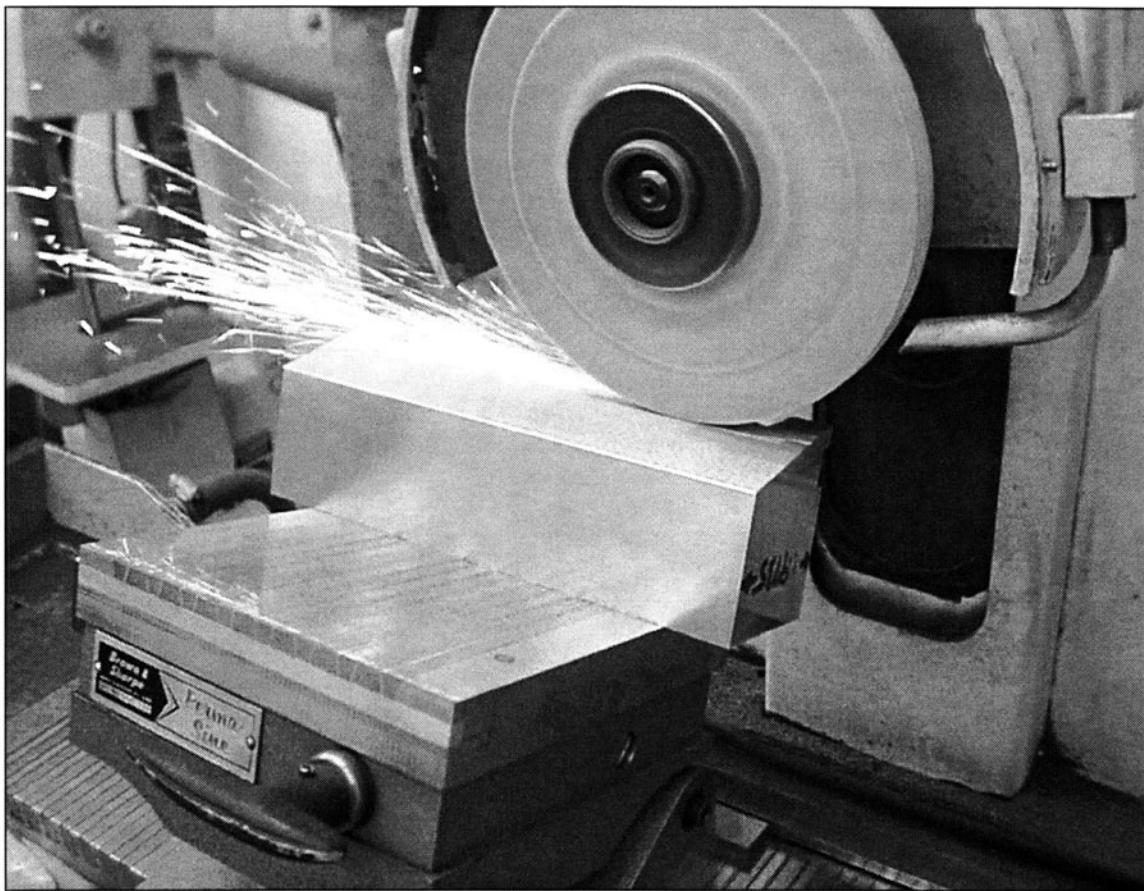

FIGURE 14-9 Magnetic sine plates provide an easy means for holding and grinding angles with a surface grinder.
15. *Use a magnetic sine plate for grinding angles. (See Fig. 14-9)*